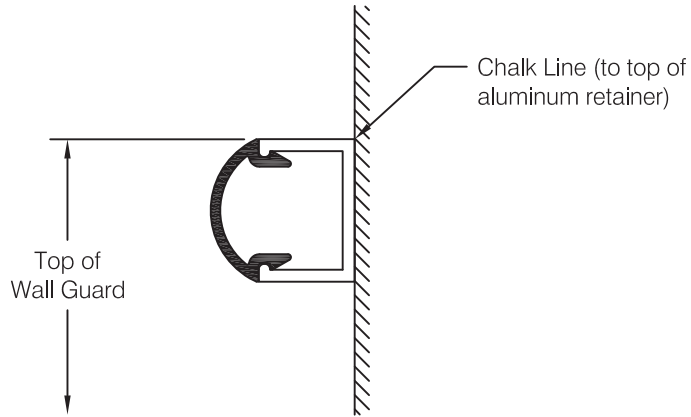

fig 1
Step 1: Determine top of wall guard and snap a chalk line to locate top of aluminum retainer, see **fig 1**.